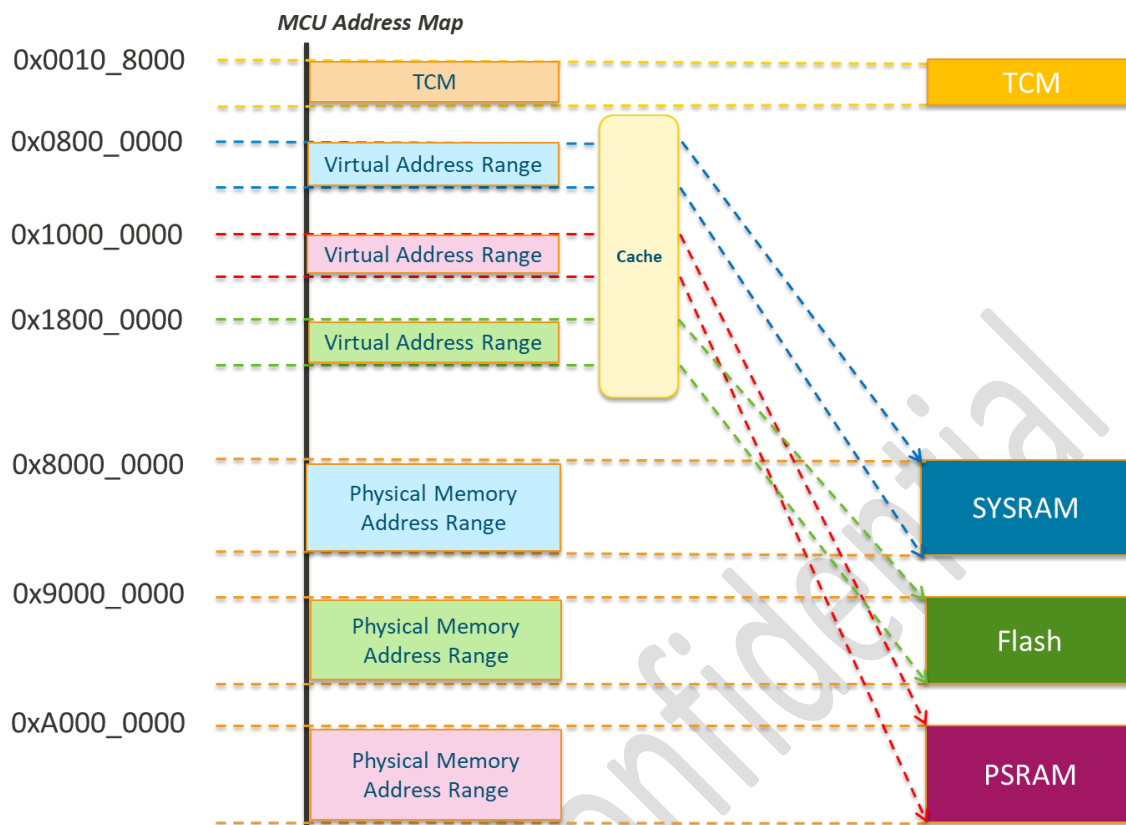

Figure 2-1 MT793X Memory Address Mapping
The **virtual memory** on the MT793X is provided for **cacheable memory** and is implemented based on the memory mapping mechanism of the Arm Cortex-M33 processor. The addresses ranging from **0x0010_8000** to **0x0011_7FFF** are mapped to the **TCM** addresses. The virtual addresses ranging from **0x1800_0000** to **0x1FFF_FFFF** are mapped to the **Flash** addresses ranging from **0x9000_0000** to **0x9FFF_FFFF**. The virtual addresses ranging from **0x1000_0000** to **0x17FF_FFFF** are mapped to the **PSRAM** addresses ranging from **0xA000_0000** to **0xAFFF_FFFF**. The virtual addresses ranging from **0x0800_0000** to **0x0FFF_FFFF** are mapped to the **SYSRAM** addresses ranging from **0x8000_0000** to **0x8FFF_FFFF**, as shown in Figure 2-1. The virtual address memory region is used as cacheable memory if cache is enabled. All read-write (RW) data is stored in this region by default.